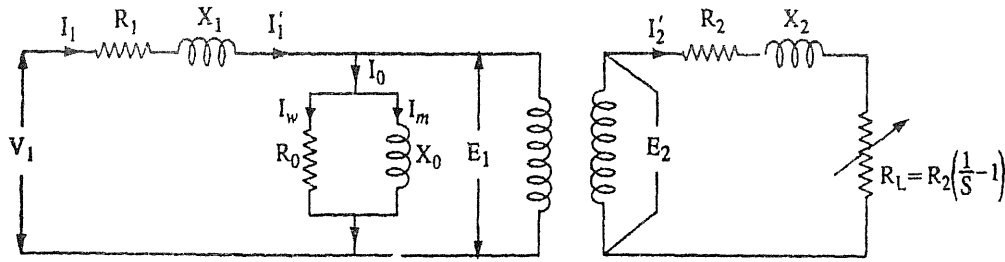

FIG. 4.15
- Fig. 4.15 is shown as equivalent per phase of a 3-phase induction motor. Here, the mechanical load is shown replaced by an equivalent electrical resistance R_L .